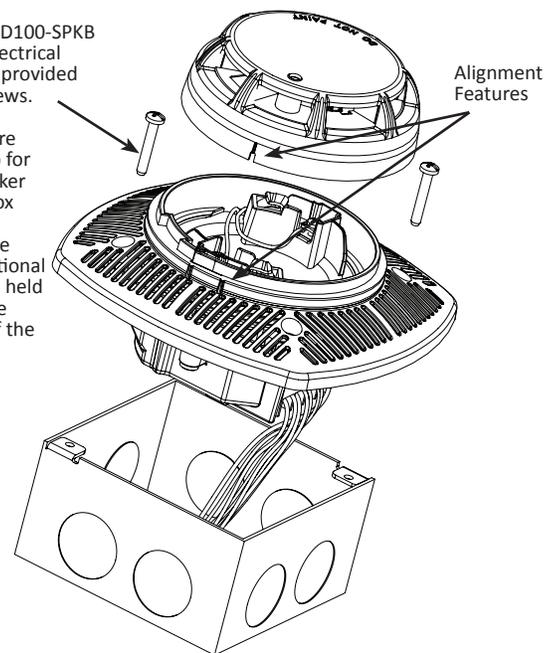
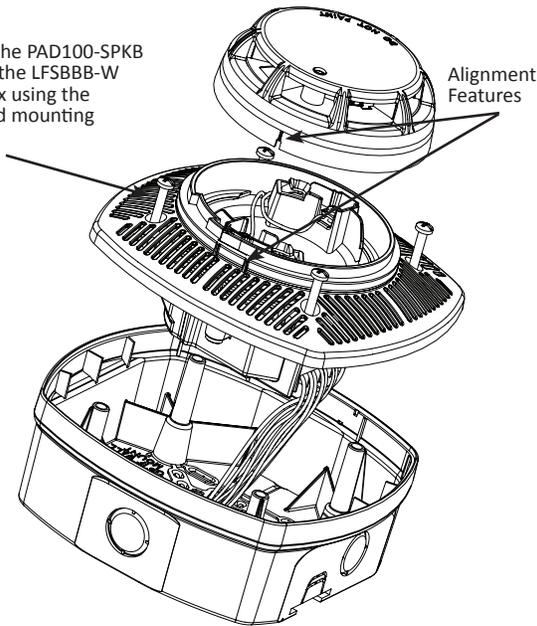

FIGURE 3a: Assembly of Detector on Electrical Box
FIGURE 3b: Assembly of Detector on LFSBBB-W Back Box
- 3. To install the detector head onto the base, match the detector heads to the base using the alignment feature and twist clockwise until the detector heads snap into place (FIGURE 3a).
PAD100-SPKB should be mounted directly on the electrical box (FIGURE 3a) or to the LFSBBB-W back box (FIGURE 3b). The PAD100-SPKB mounting holes are configured for a 4" x 2-1/8" deep square box. Use a box for each base and run the power circuit to all base locations.